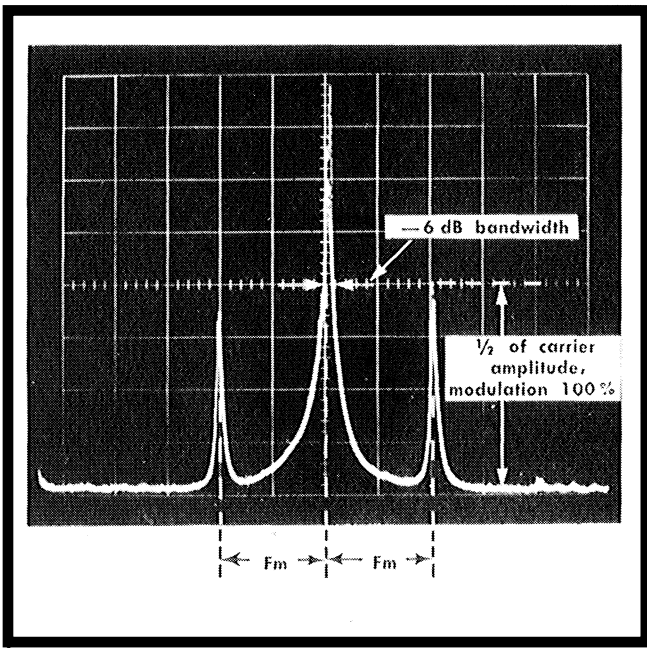

Fig. 2-18. Spectrum of an amplitude modulated signal. Sideband amplitude is 1/2 the percentage of modulation. This spectrum shows 100% modulation.
When a single frequency (CW) signal is amplitude-modulated by a single frequency, two additional frequencies will be generated; the carrier plus the two side bands. See Fig. 2-18. The amplitude of either sideband with respect to the carrier voltage is 1/2 the percentage of modulation. The frequency difference between the carrier and either sideband equals the modulating frequency.